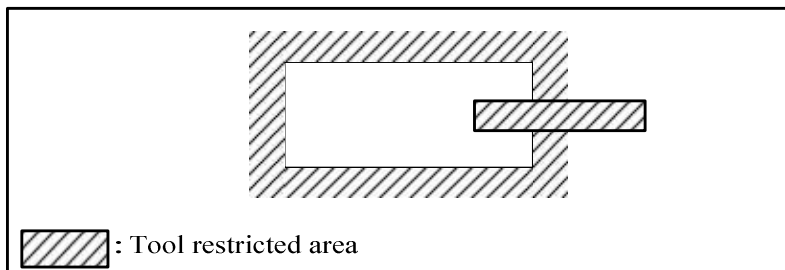

Fig. 2-6-5 Restricted area overlapping setting
- 4) Overlap of restricted area for tools: Restricted area can be set in an overlapping manner. As shown in the figure 2-6-5.